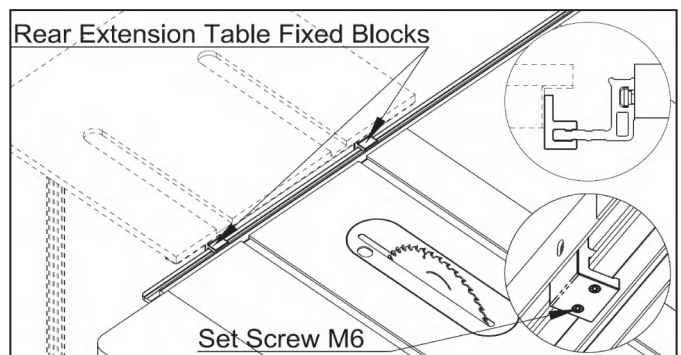

Fig. 6-27
9. The two Rear Extension Table Fixed Blocks (Item D) are provided with the product for the installation of the rear “off-feed” extension table. These blocks, as demonstrated in Fig. 6-27, can be affixed at any desired position along the rear guide rail using M6 set screws.